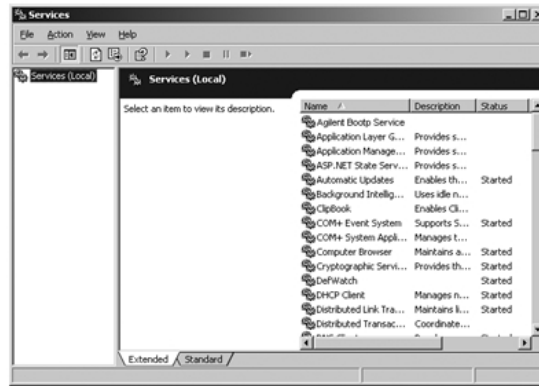

Figure 30 Windows Services screen
- 1 In the Windows control panel, select **Administrative Tools > Services**. The **Services** screen appears, see Figure 30 on page 82.